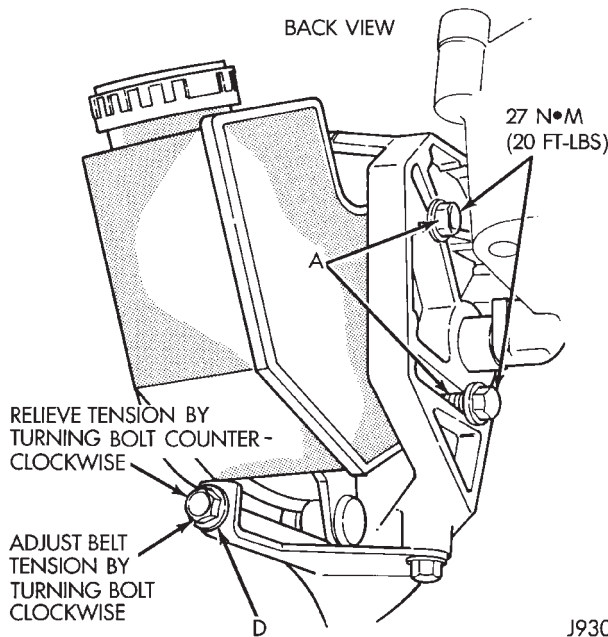

Fig. 8 P.S. Pump Rear Mounting Bolts—Typical
(1) Loosen two rear power steering pump mounting bolts A (Fig. 8).
(3) Loosen pump adjusting bolt D (Fig. 8).
(4) If belt is to be adjusted, refer to Drive Belt Tension specifications at the end of this group for correct tension and proceed to step 7.
(6) Install new belt. Refer to the end of this group for Drive Belt Tension specifications.
(7) Tighten pump adjusting bolt D (Fig. 8) to attain proper belt tension.
(8) Tighten rear pump mounting bolts, pivot bolt and lock nut to 27 N·m (20 ft. lbs.) torque.
(9) After power steering pump has been tightened into position, recheck belt tension. Adjust if necessary.